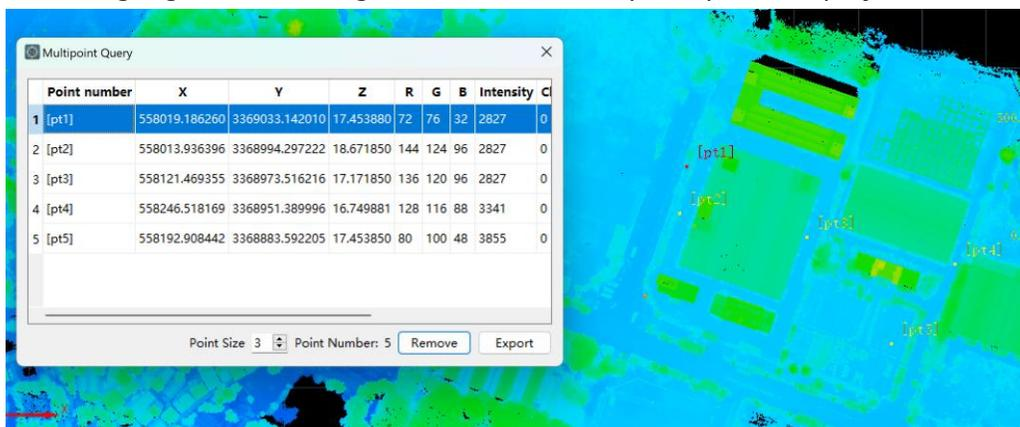

Figure 3-116 Multi-points query display
- (3) Click the point cloud in the view, the basic attribute information of the queried point cloud will be displayed in the multi-point query pop-up window, including: 3D coordinates, RGB, intensity, category and GPS time.
- (4) Add labels under the point cloud nodes in the workspace, click the labels in the workspace or the label line in the multi-point query pop-up window, the queried point cloud in the view is in the highlighted state (Figure 3-116), and the point pt1 is displayed in red.